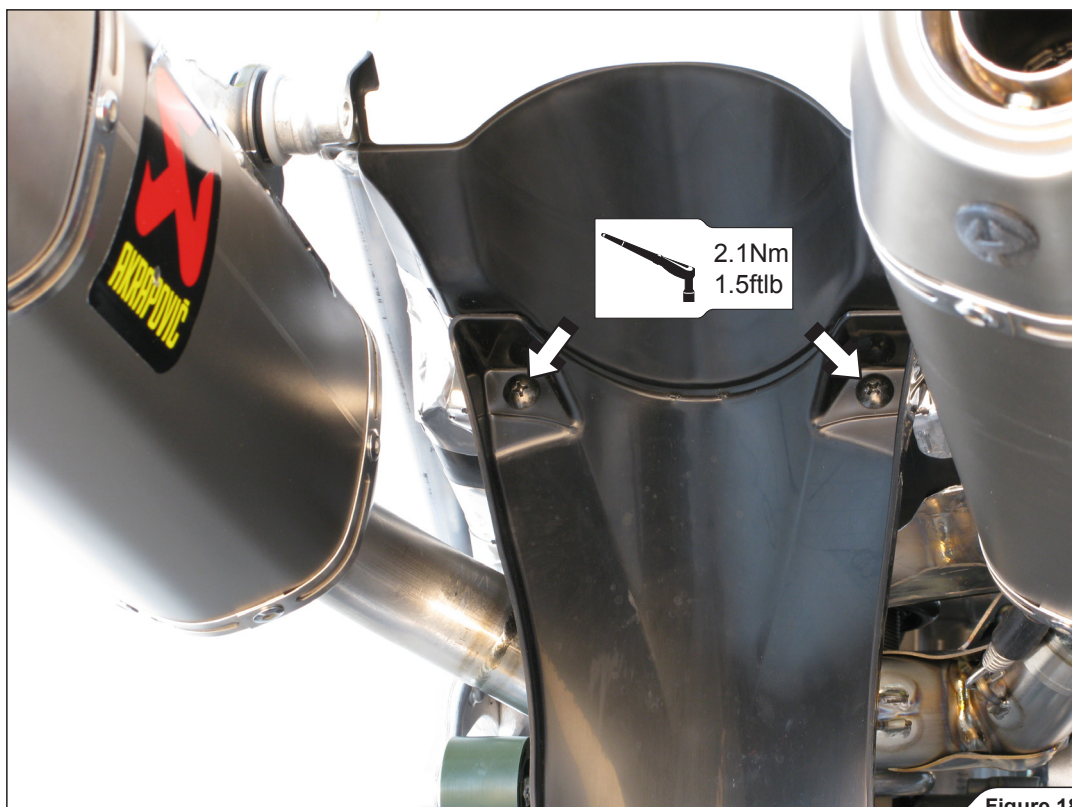

Figure 18
- Remount the mud guard (**Figure 18**).